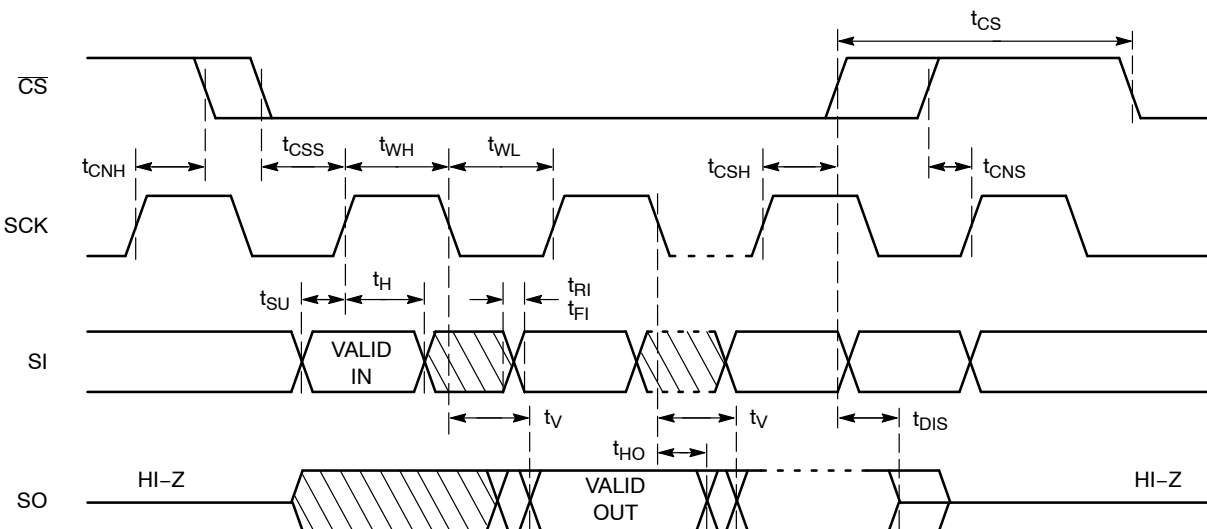

Figure 2. Synchronous Data Timing
9. **All Chip Select (CS) timing parameters are defined relative to the positive clock edge (Figure 2). tCSH timing specification is valid for die revision D and higher. The die revision D is identified by letter “D” or a dedicated marking code on top of the package. For previous product revision (Rev.C) the tCSH is defined relative to the negative clock edge.**
After a high to low transition on the  $\overline{\text{CS}}$  input pin, the CAT25128 will accept any one of the six instruction op-codes listed in Table 10 and will ignore all other possible 8-bit combinations. The communication protocol follows the timing from Figure 2.